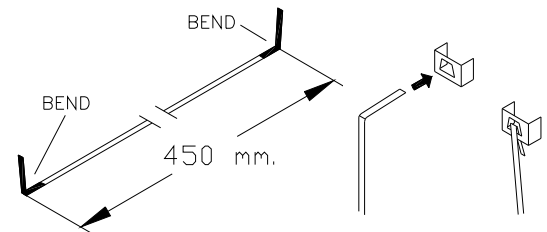

Fig. 9
Bend the new sealing wire 90° at both ends as shown in fig. 9. Place one end of the sealing wire through the mounting bracket (3) from the outside to the inside (see fig. 9), mount the mounting bracket (3) onto the sealing wire tensioner (2). Place the other end of the sealing wire through the other mounting bracket (3) (from the outside to the inside) and mount this bracket onto the other sealing wire tensioner. Check for the sealing wire stretcher to be stretched well. If not bend the sealing wire shorter (fig. 9).